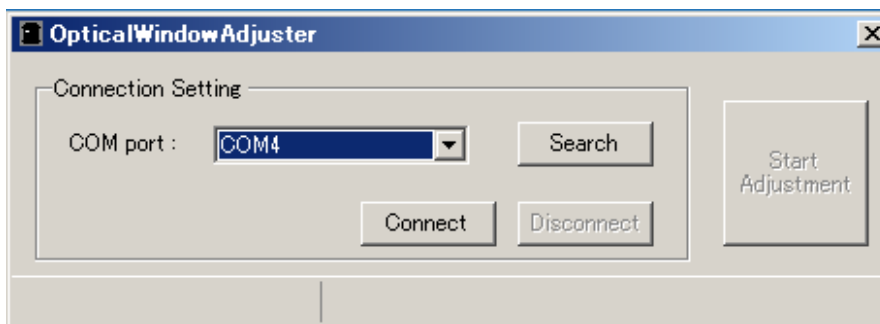

Figure 8-2 Optical Window Adjuster
- Start Optical Window Adjuster. Window as shown in figure 8-2 will appear.
g) When adjustment is complete, dialog box as shown in Figure 8-3 will appear. Click the OK button and then click disconnect button (Figure 8-2). Remove the USB cable. UAM will switch to normal operation. Retry the adjustment after checking the optical window and USB connection if an error dialog as shown in Figure 8-4 is displayed. If adjustment fails even after repeated trial contact the nearest distributor or sales representative for support. Send the log file and calibration data file for investigating the cause of failure in such case.